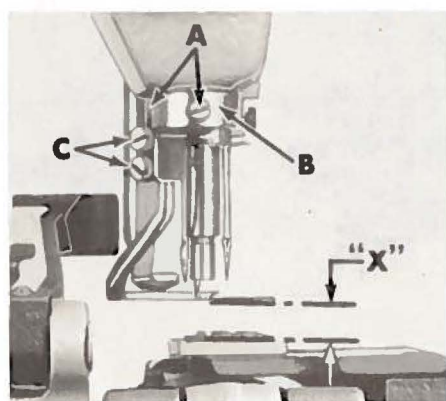

Fig. 12
With the needle bar in its up position, and the spreader (A, Fig. 11) at the left end of its stroke, the upper spreader point should extend $7/32$ inch (5.56 mm) to the left of the centerline of the center needle. This is accomplished by loosening screws (A, Fig. 12) and rotating spreader holder (B) to position the upper spreader point. Retighten screws.
CAUTION: The spreader holder is also the lower thrust collar for the spreader shaft, so when tightening screws (A, Fig. 12) be sure to push down on the spreader shaft and up on the spreader holder.
The spreader should clear the left needle shank by $1/64$ to $1/32$ inch (.40 to .79 mm) on all machine Styles. The bottom of the spreader should be $21/64$ inch (8.33 mm) above the throat plate on machine Style 57900 H and $27/64$ inch (10.72 mm) above the throat plate on machine Style 57900 N ('X', Fig. 12). Adjustment can be made by loosening screws (C, Fig. 12) and position spreader as required.